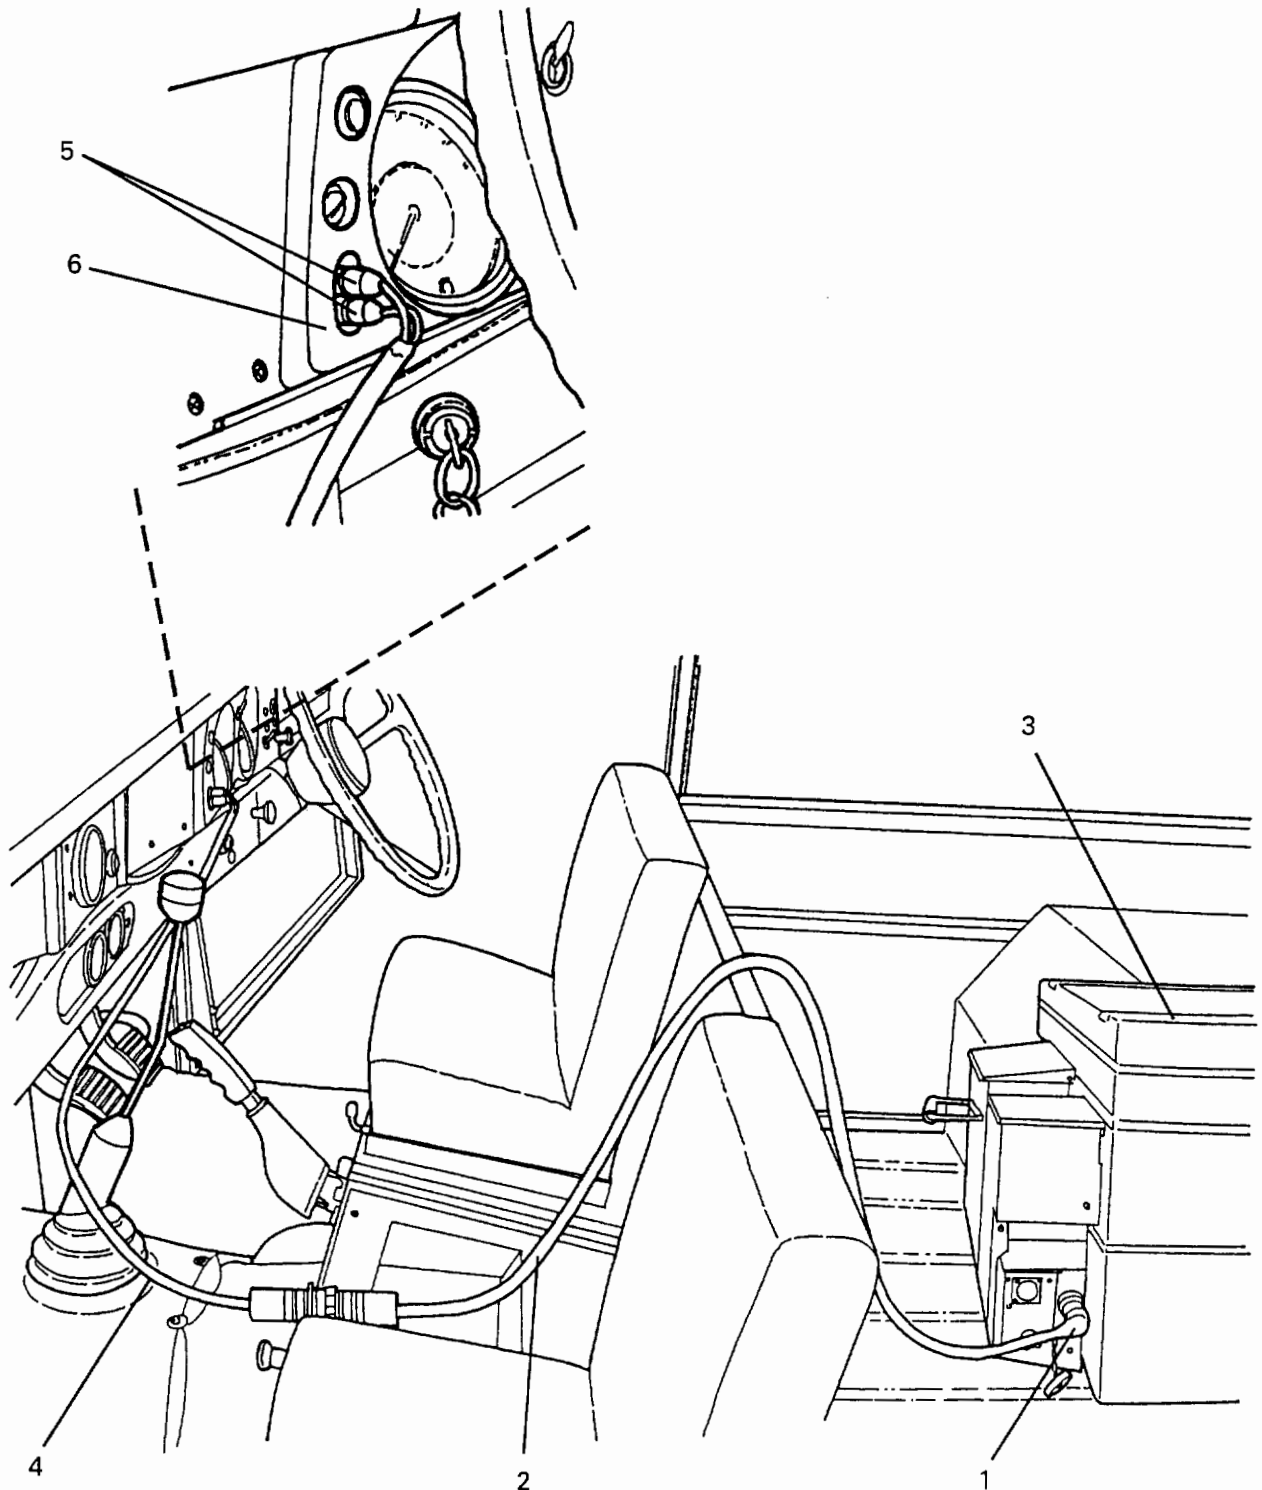

Figure 3-6 — 24 Volt Land Rover Power Cable
309. Connect the angled socket (1) of the extension cable (2) to the blood refrigerator (3) (Fig 3-6).
310. Connect the 24 V Land Rover cable (4) to the extension cable, and connect the twin plugs (5) to the Land Rover dash panel outlet socket (6), red plug to red socket, black plug to black socket (Fig 3-6).